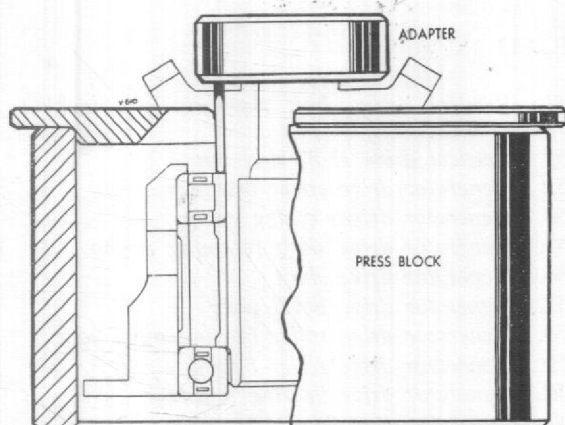

Fig. 9. Press block T.77681 and three-pin adapter T.77682 for partly removing housing and bearings from port generator drive gear.
4. Remove the assembly from the vice block and place it on press block T.77681 with the bevel gear uppermost; using three-pin adapter T.77682 press off the housing, complete with the ball and roller bearing, to the limit of the pin length, Fig. 9. Remove the assembly from the press block.